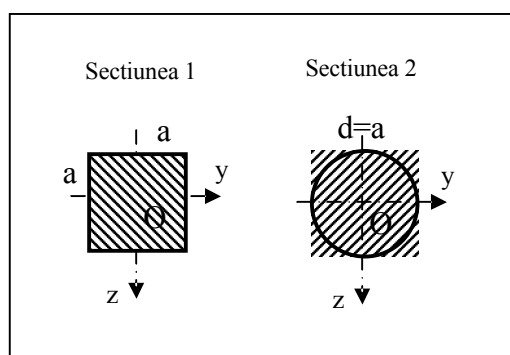

Fig. 5
06) The ratio between the axial moments of inertia for the cross sections represented in Fig. 5 is: